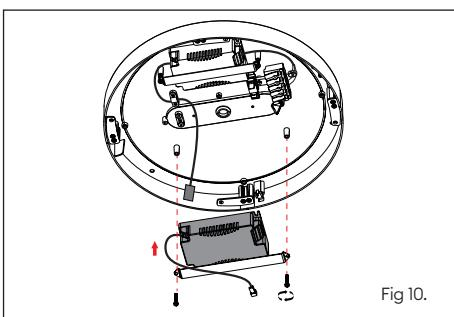

Fig 10.
- Secure driver to base section by placing under the spare driver bracket and fixing the bracket into place using the screw removed in stage 1. Ensure driver is secure by checking both bracket screws (fig 10).